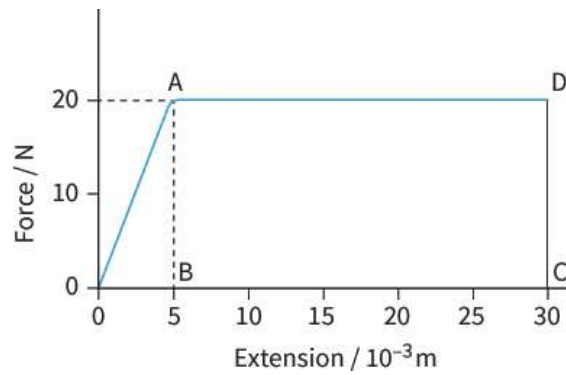

Figure 7.18: For Worked example 4.
- 4** Figure 7.18 shows a simplified version of a force-extension graph for a piece of metal. Find the elastic potential energy when the metal is stretched to its limit of proportionality, and the total work that must be done to break the metal.